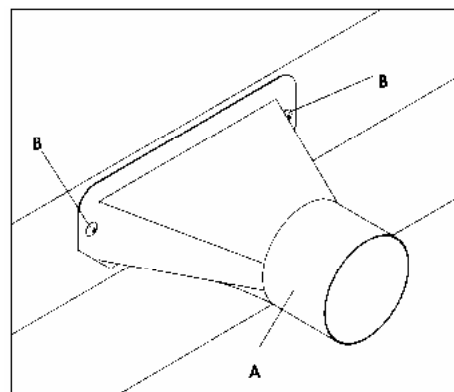

Fig.3.26
Assemble dust chute (A) Fig.3.26. to rear of machine table, using the two screws and washers (B) as shown.